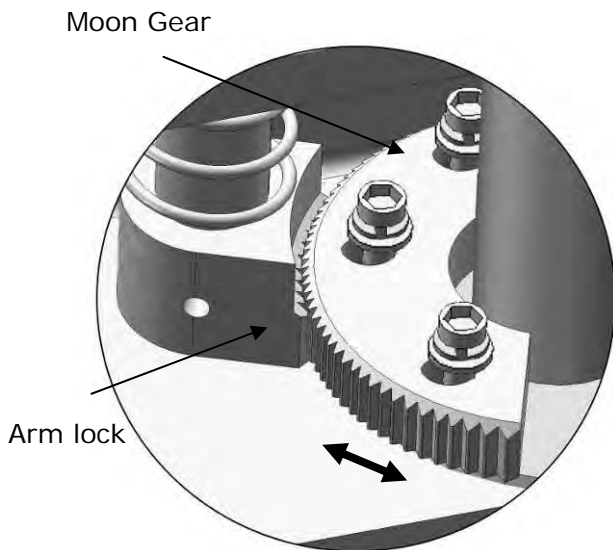

**Fig. 35**
**Q. Install the lifting arms (See Fig. 35)**